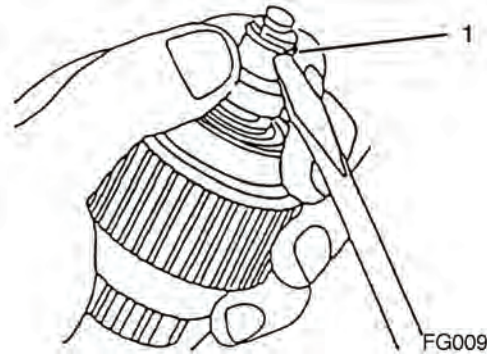

Figure 348
11. Using a flat-blade screwdriver, remove the retaining ring (1, Figure 348) from the shaft of the pinion.